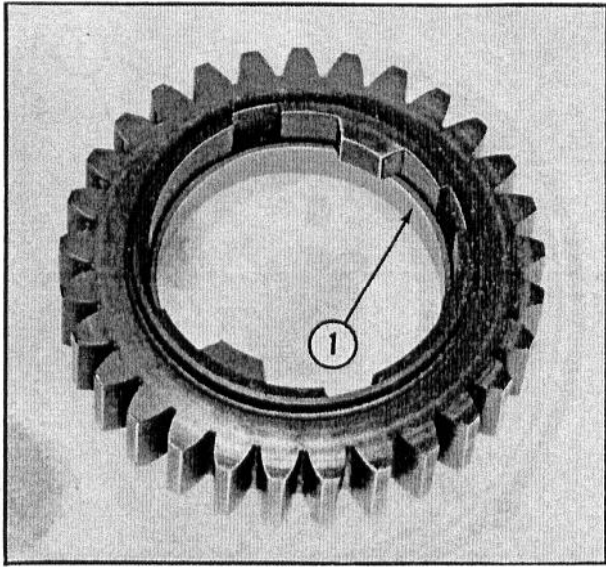

Fig. 27 - Inner Gear
2. Check the bronze bushing in the inner gear for scoring, gouging and grooving. See Fig. 27.